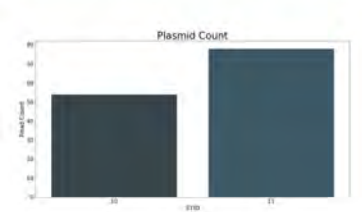

Figure 27. Quality control of the integrated tracking system
- STIDs: Verification that the tracking reagent obtained matches the expected one (if it has been used), as shown in Figure 27.